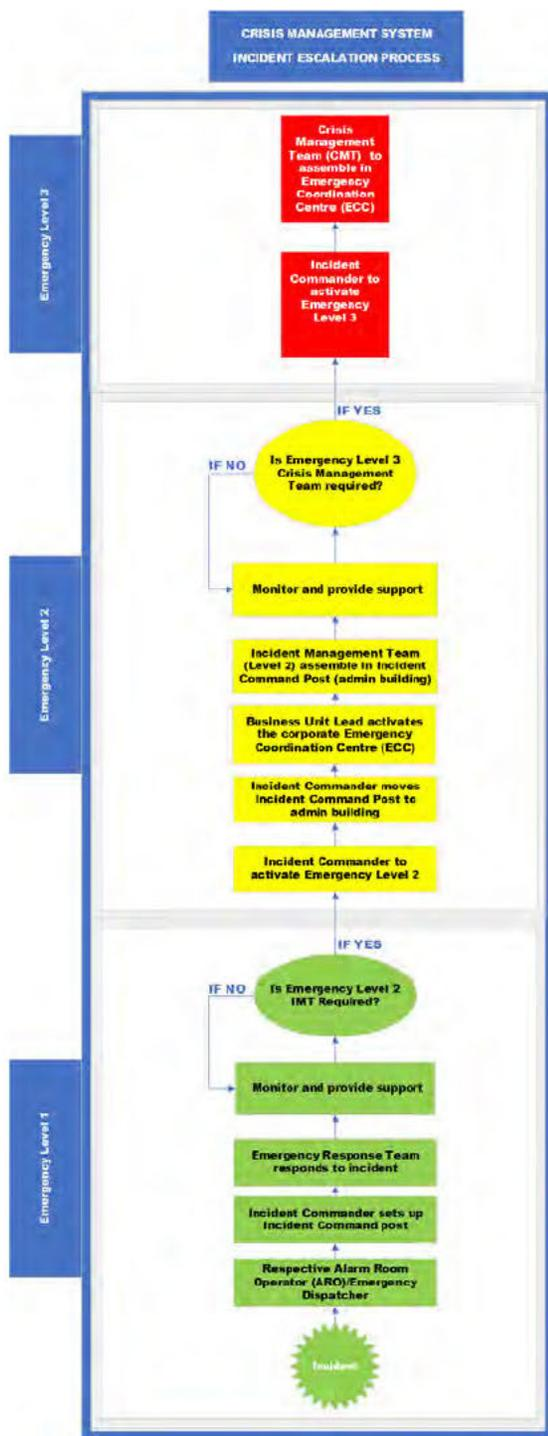

Figure 11: Incident Escalation Process
3. Establish a planning cycle for the incident (refer to **Figure 11 - Planning P**).